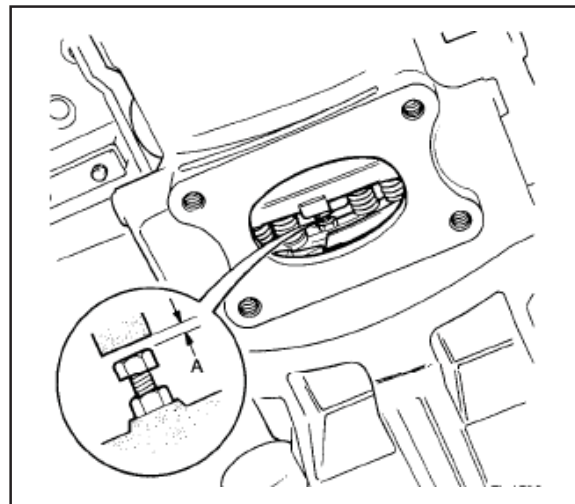

Fig. 99
1. Remove the four bolts and the inspection cover from the underside of the clutch housing (Fig. 99).